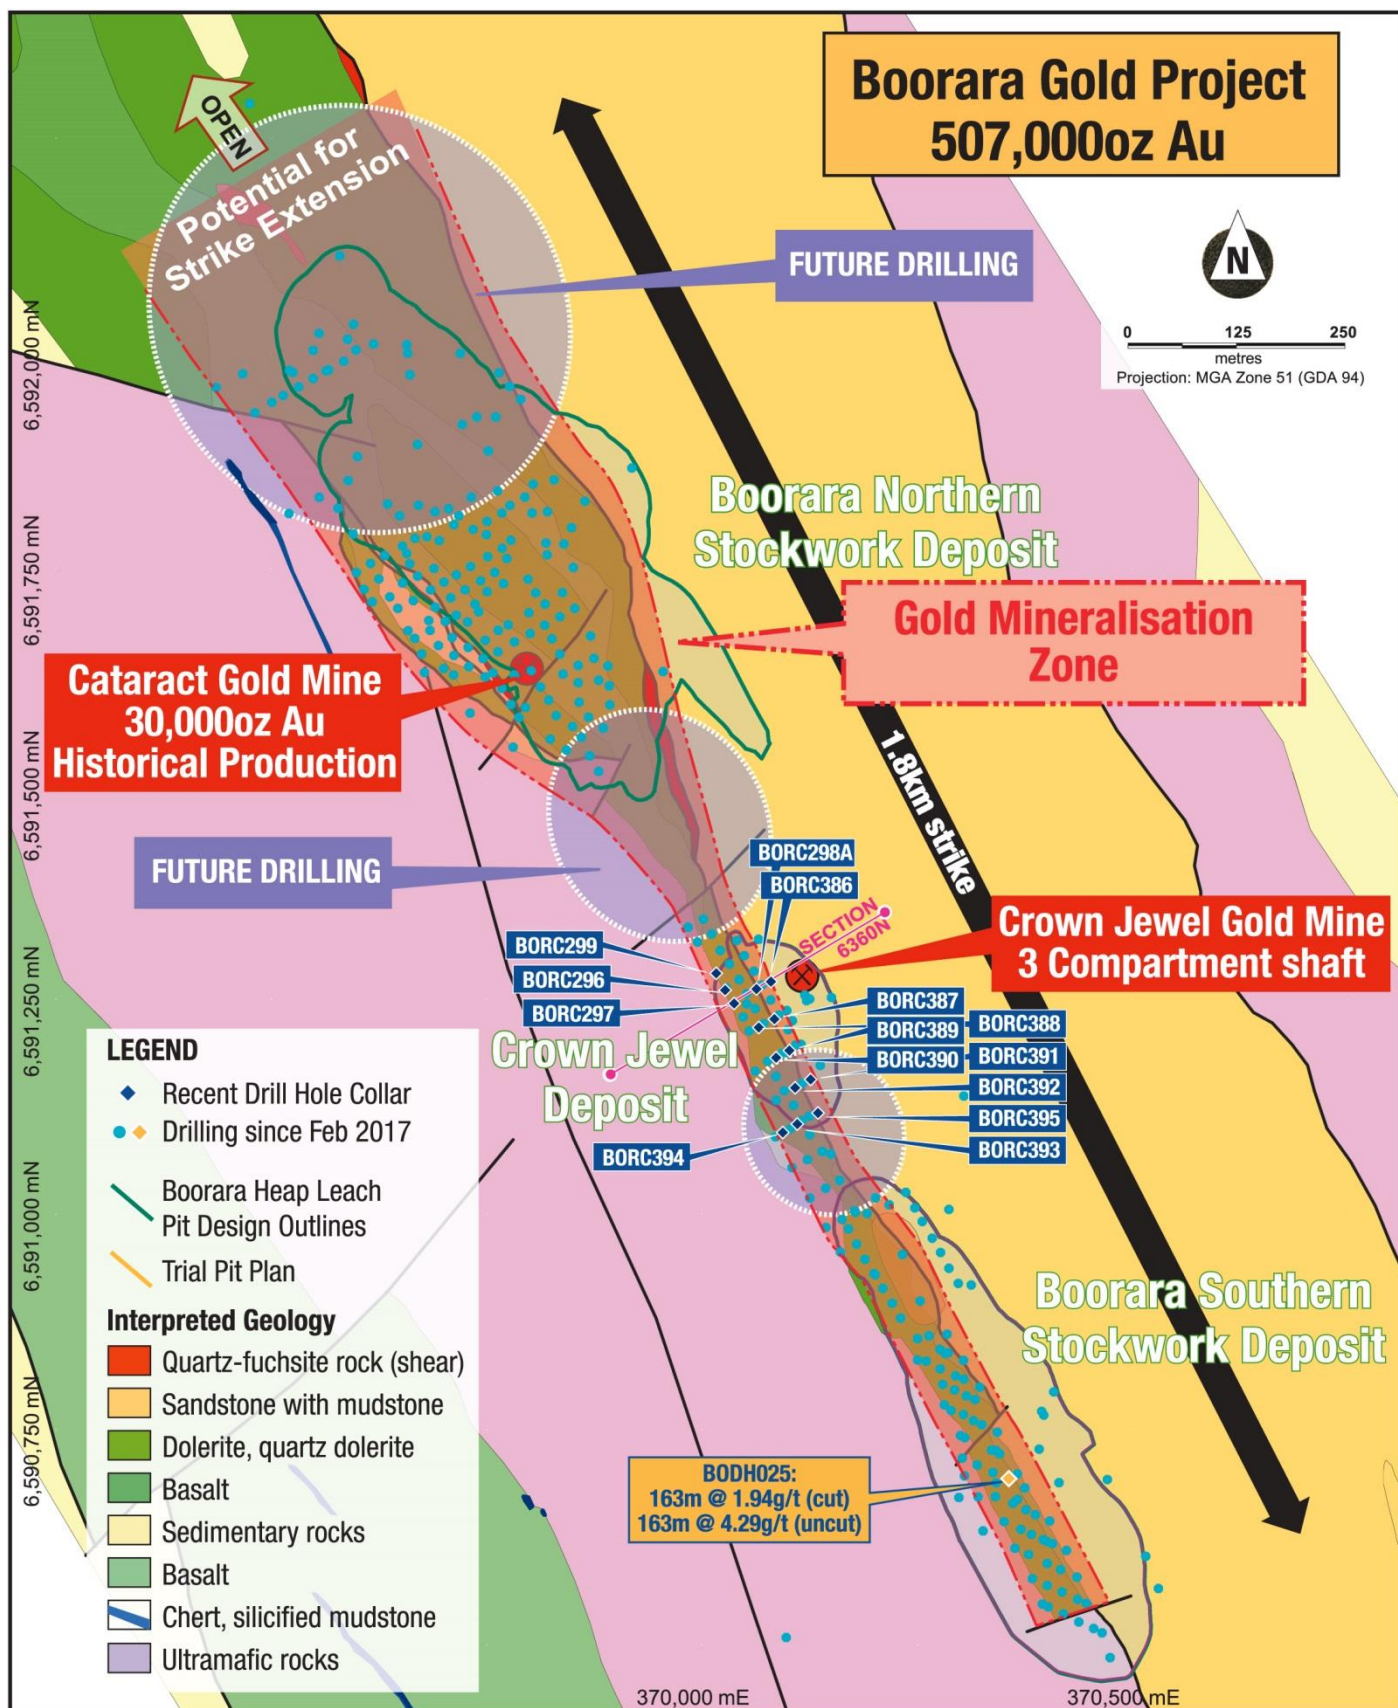

Figure 3: Plan view of Boorara drill holes with interpreted geology.
Reverse Circulation (RC) drilling at Crown Jewel continues to intersect significant gold results along strike (see figure 3).
These latest gold results relate to 13 RC drill holes (1,983 m) that extend from north of the Southern Stockwork deposit to the Crown Jewel Deposit of the 1.8 km Boorara discovery zone (see Table 1, Figures 3). This area has not been subject to close spaced drilling in the past.
A gold mineralisation zone has been outlined by close spaced auger gold geochemistry +100ppb Au anomalism that links all deposits together and extends to north of the Northern Stockwork Deposit (see figure 3) along strike for almost 1 km.
The RC drilling results to date demonstrate that gold mineralisation extends at three main ore zones that has not been adequately drill tested and additional drilling is required that could potentially link all three deposits into one (see figure 3). Close spaced auger gold geochemistry anomalism (+ 100 ppb Au contour) defines a gold mineralisation zone that is continuous through all deposits and extends north from the Northern Stockwork Deposit along strike for almost 1 km.